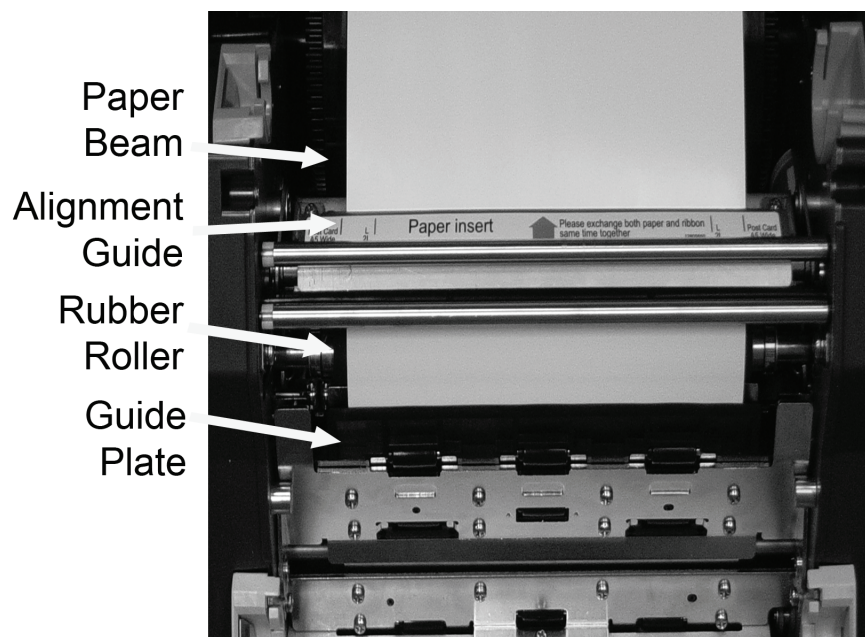

Figure 3. Threading the Paper in the M4/Q4
7. Remove the sticker from the paper roll. Carefully place the spool in the paper cradle (see Figure 3).
8. Feed the paper over the beam and under the alignment guide. Align the paper as indicated by the guide markings on the printer (see Figure 3).
9. Slide the paper over the rubber roller and behind the guide plate (see Figure 3).